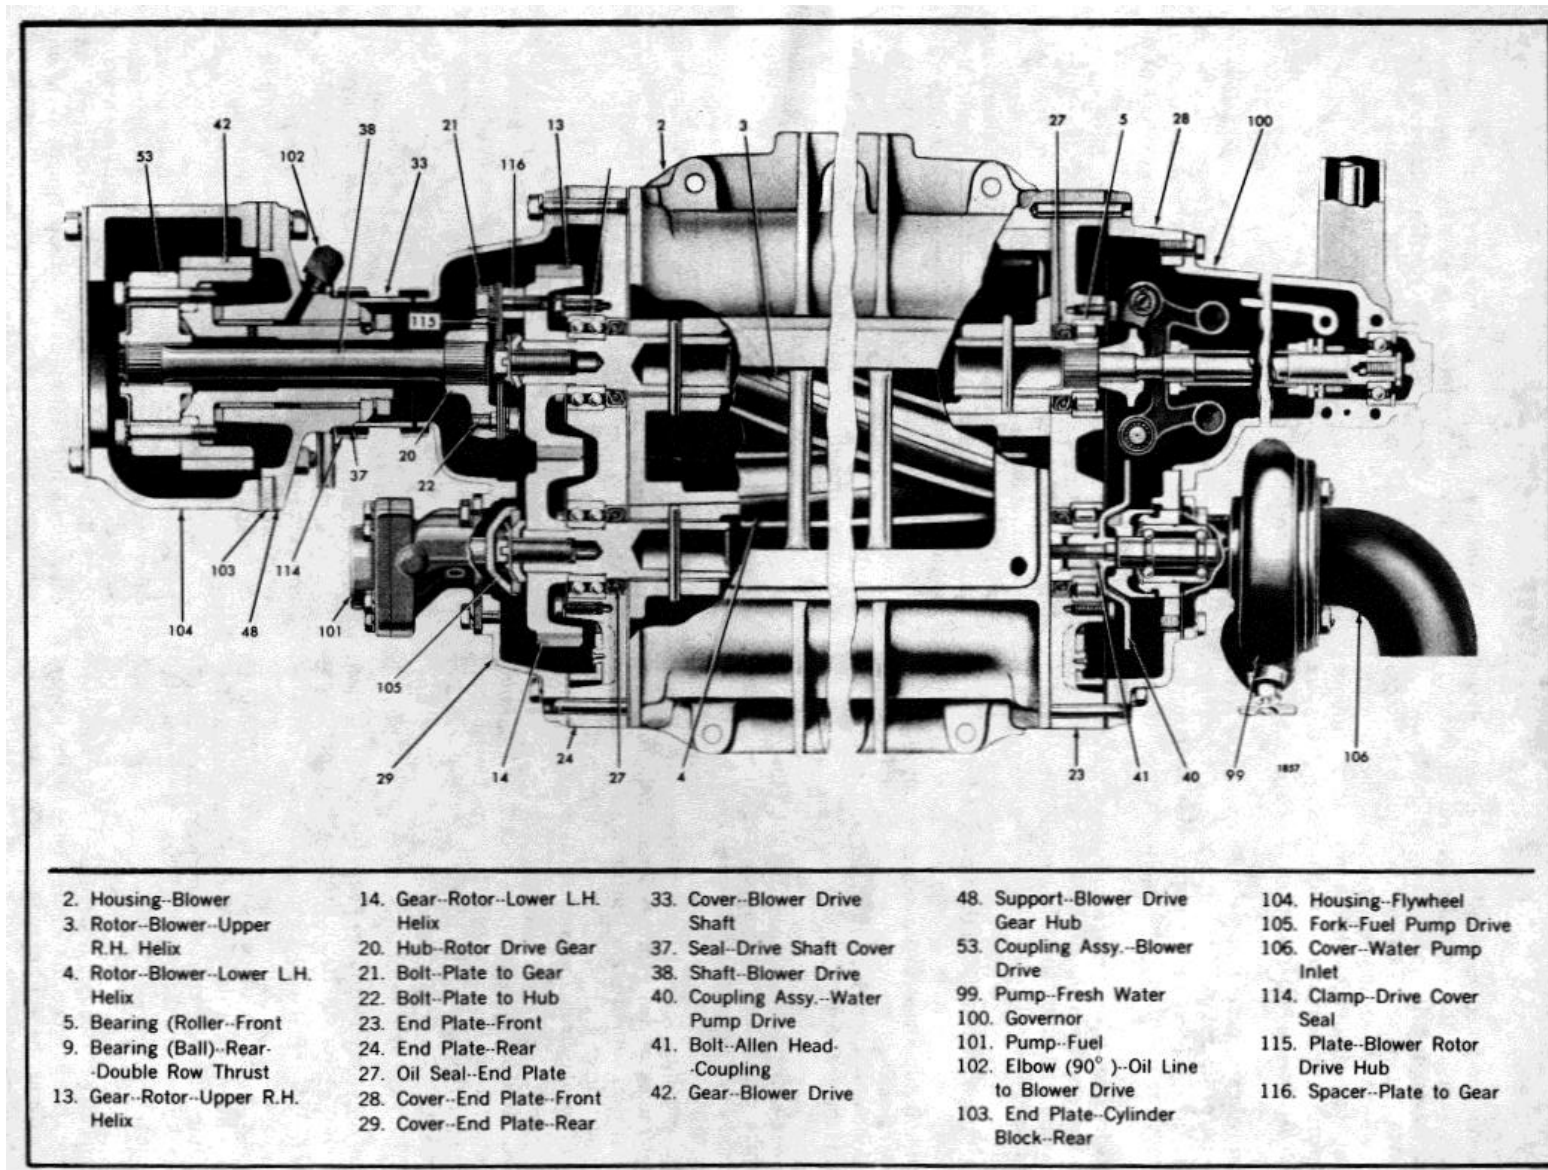

Fig. 1 - Blower and Drive Assembly and Accessories including Mechanical Governor Attached to blower
8. Loosen the blower drive shaft cover seal clamp (114 Fig. 1) at the blower drive gear hub support.